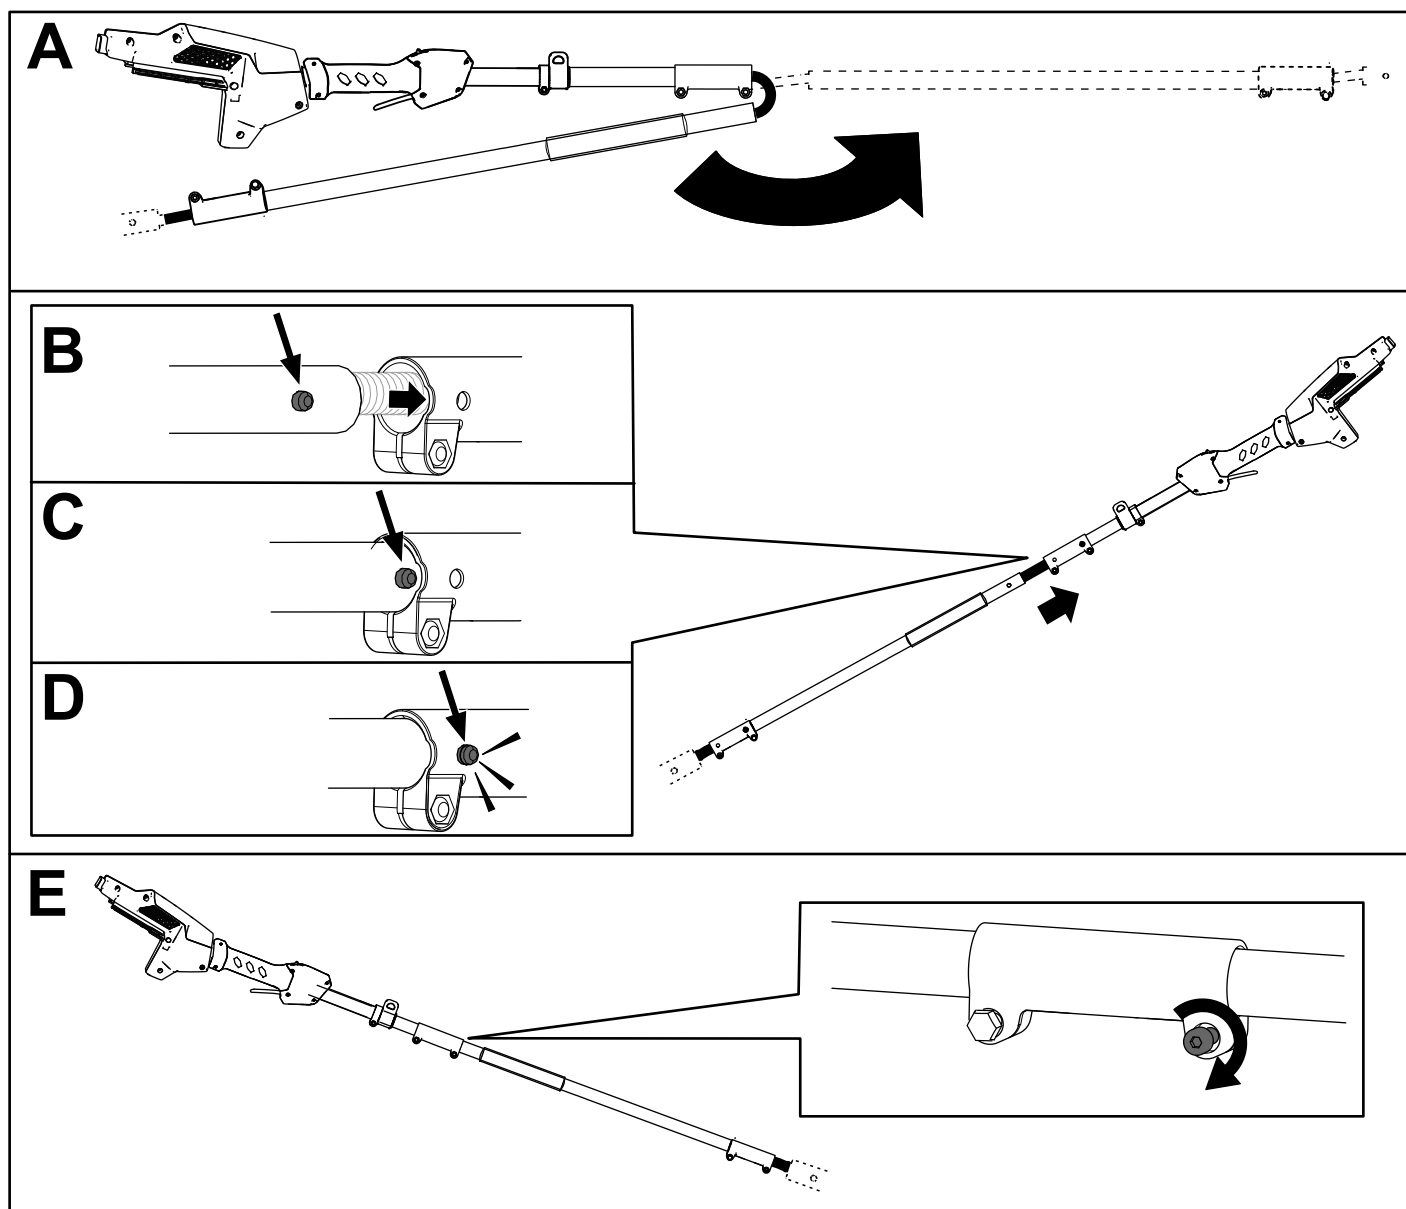

Figure 5
2. Align the locking button on the middle pole section with the slotted hole at the end of the handle pole section and slide the 2 shafts together (Figure 5).
3. Use the provided wrench to secure these 2 sections of the pole together (E of Figure 5).
4. Repeat this procedure to connect the saw pole section to the middle pole section (Figure 5).